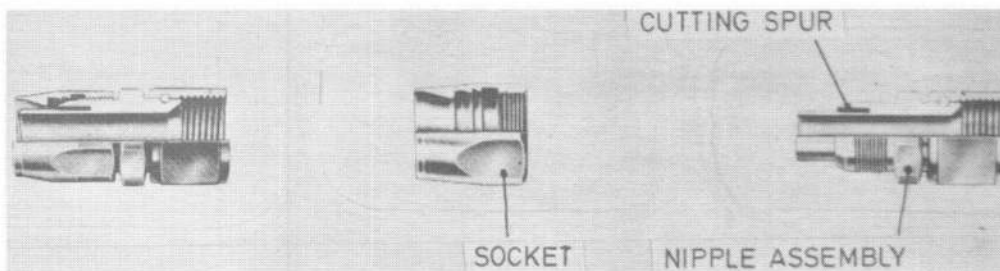

Fig. 7 Typical 'Little Gem' fitting
'Little Gem' fittings (fig. 7)
12. During initial assembly, these fittings use a circumferential cutter, or spur, on the nipple (see fig. 7) to cut into the hose between the inner tube and the reinforcements, the inner tube enters the annular space formed by the spur and is driven to form a positive seal when the socket is screwed home. At the same time, the reinforcements are lifted by the outer surface of the